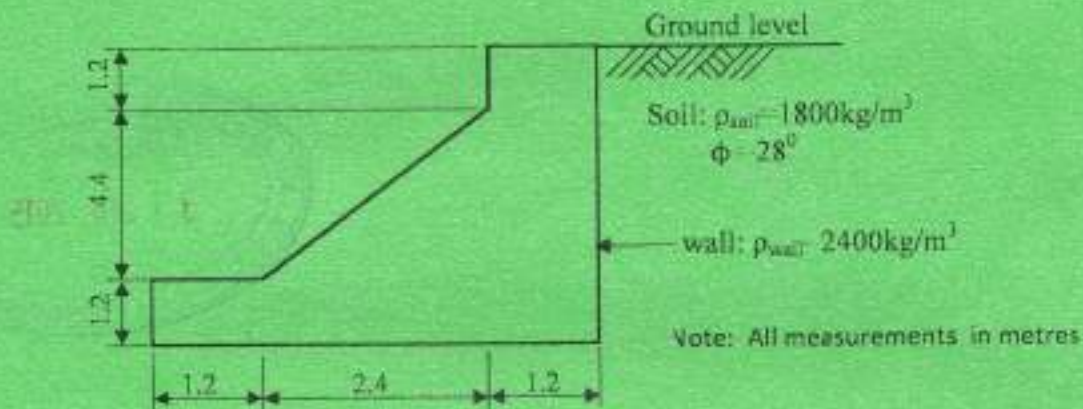

Fig. 1
1. Figure 1 shows a retaining wall which supports a cohesionless soil having density 1800 kg/m^3 and shearing resistance of 28° . The density of the wall material is 2400 kg/m^3 . Examine the stability conditions of the wall with regard to: